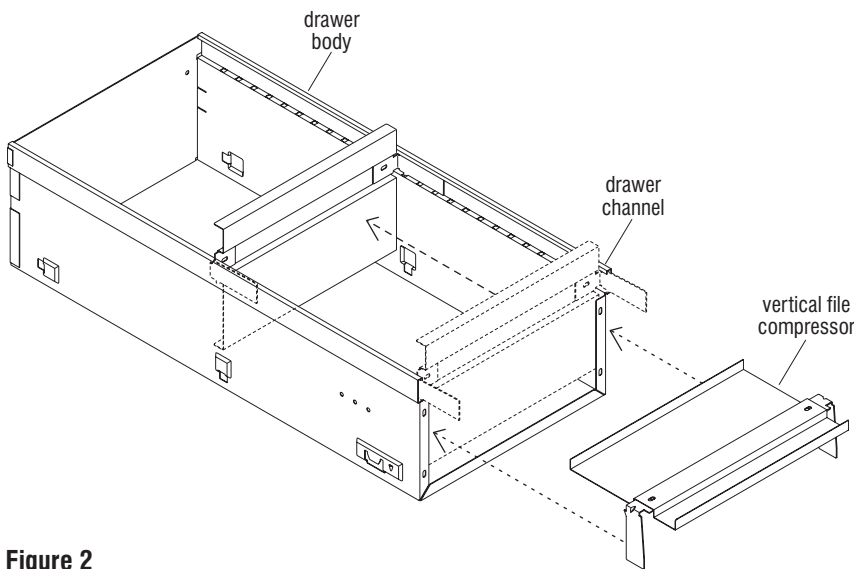

Figure 2
2. Take the vertical file compressor in hand and orient the back of the unit to face up, such that the rectangular tabs point down as shown. Insert the bottom of the file compressor into the drawer channels just above the drawer front attachment flanges as illustrated (Figure 2).
3. Move the vertical file compressor back until the rectangular tabs meet the front of the drawer body, then rotate the bottom of the file compressor down vertically into the drawer body, and continue to slide the unit back so that the tabs follow and insert into the corresponding channels inside top of the drawer body (Figure 2).
4. The catches on the bottom of the rectangular tabs will drop into the notches in the bottom of the channels in the drawer body. To move backward or forward, lift up and move the file compressor (Figure 2).